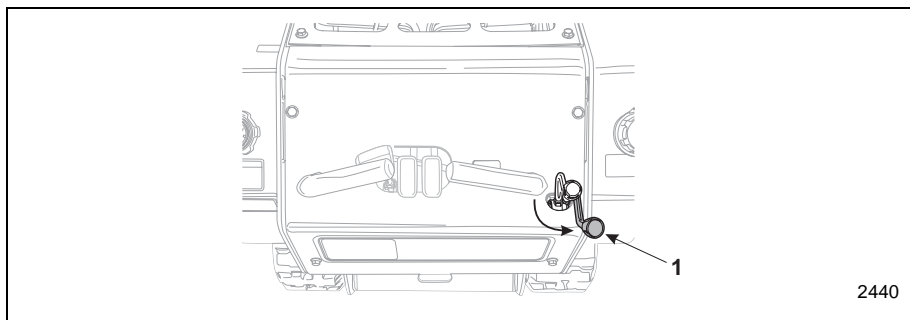

Figure 3–19 Trencher Chain Control Lever in Forward Position
5. Using the boom lower control, slowly rotate the trencher boom downwards until it makes contact with the ground. See **Figure 3–20**. Continue to slowly lower the trencher boom, but do not move the machine.